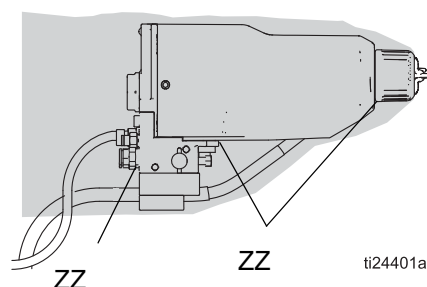

FIG. 19 Check for Fluid Leakage
During operation, periodically check all openings of the gun shroud (ZZ) for the presence of fluid. See FIGURE 19. Fluid in these areas indicates leakage into the shroud, which could be caused by leaks at the fluid tube connections or fluid packing leakage.